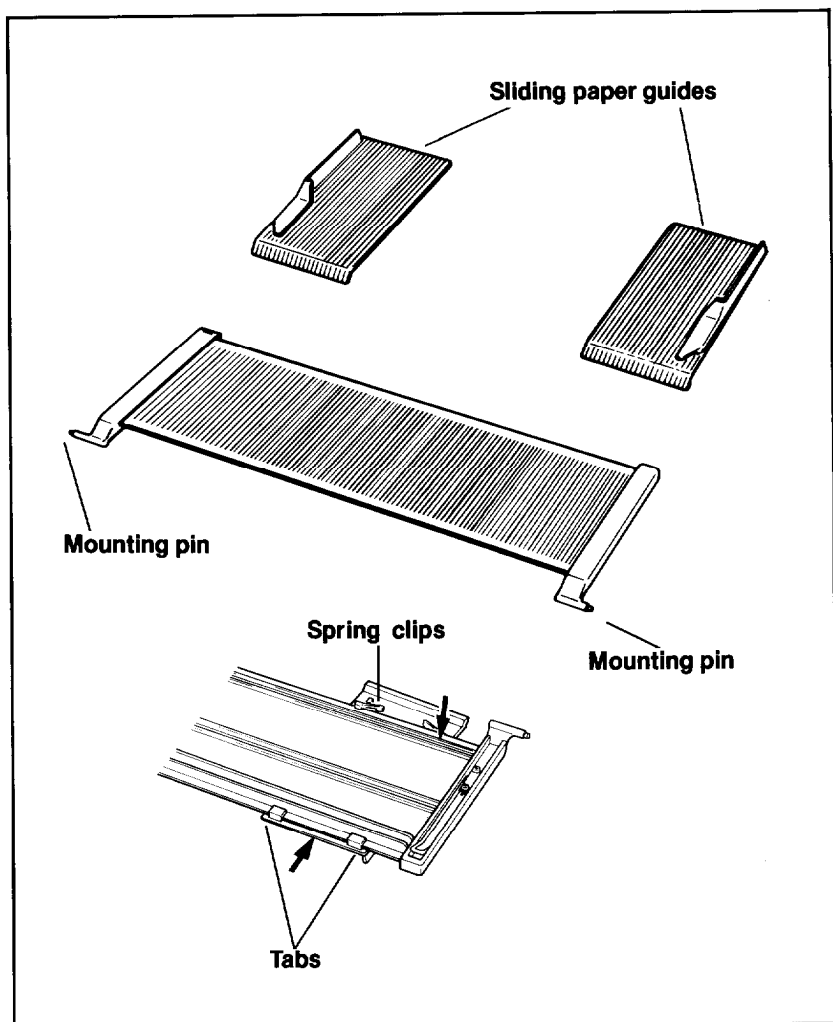

Figure 1-10. Sheet guide assembly
1. Orient the sheet guide so that the textured side is up and the metal mounting pins are facing you. Lay one of the two sliding paper guides on top of the sheet guide. The matching textured side should be facing up and the lipped end should be facing toward you. Now tilt the top of the sheet guide up so that you can hook the tabs at the top of the sliding paper guide over the top edge of the sheet guide (see Figure 1-10).